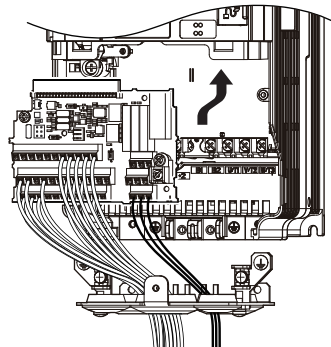

Figure 7.41 Install the Terminal Board
- After wiring the main circuit, connect the terminal block to the drive as shown in Figure 7.41. Use the installation screw (M3: 0.49 - 0.73 N·m) to fasten the terminal block into place.